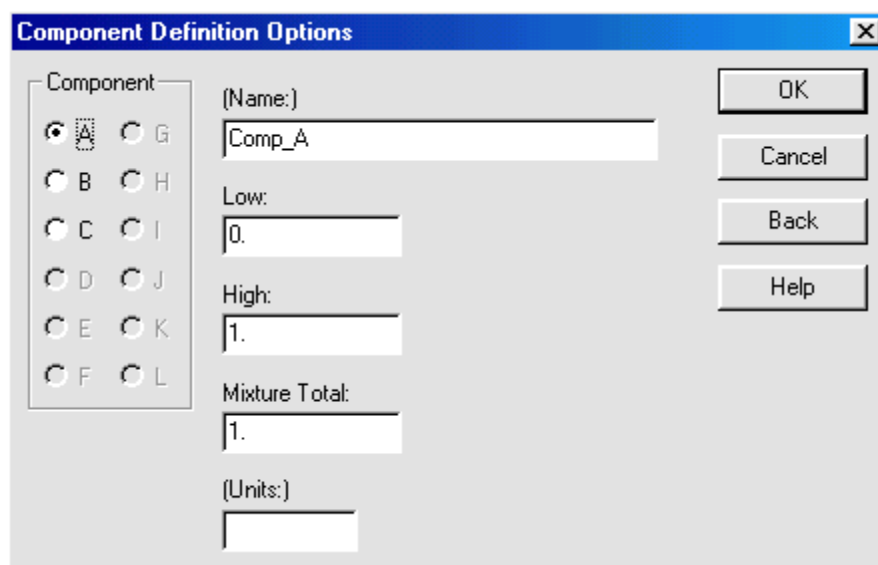

Figure 2-2. Component Definition Options Dialog Box
3. Click OK to display the Component Definition Options dialog box shown in Figure 2-2.